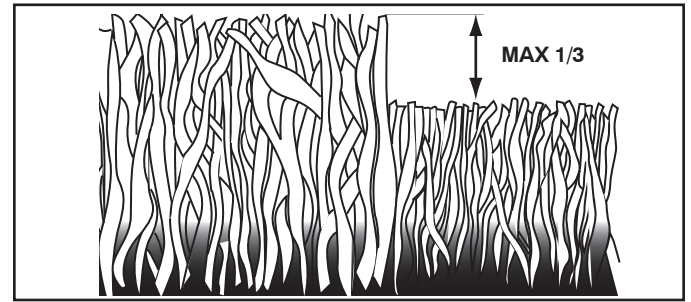

Fig. 17
- For best results, adjust the mower cutting height so that the mower cuts off only the top one-third of the grass blades (See Fig. 17). For extremely heavy mulching, reduce your width of cut on each pass and mow slowly.